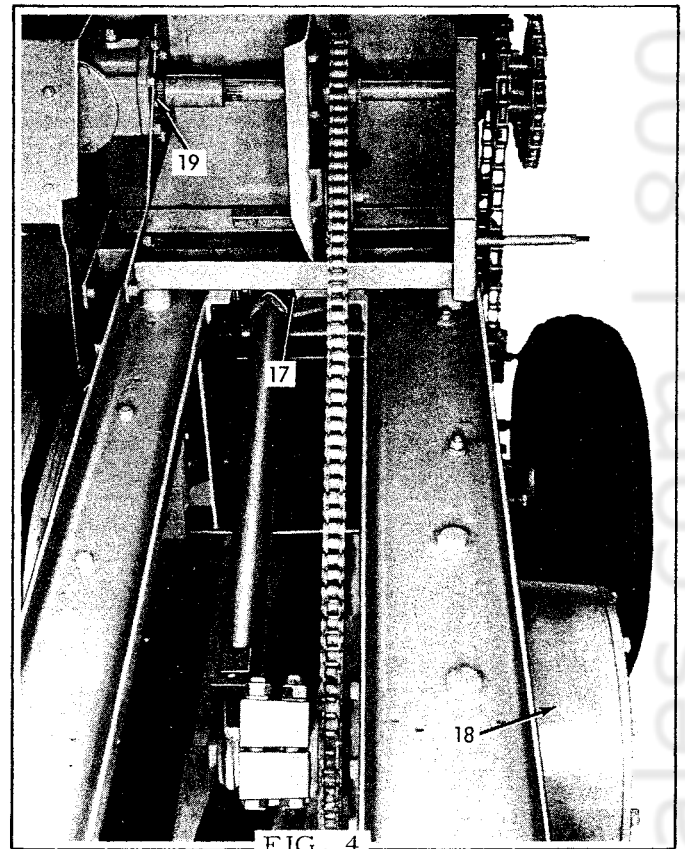

FIG. 4
- 17. Ram pivot pin (Fig. 4)
- 18. Main gear box - fill to filler plug with 140 S.A.E gear lube. (Fig. 4)
- 19. Secondary gear box - fill to filler plug with 90 S.A.E. gear lube. (Fig. 4)